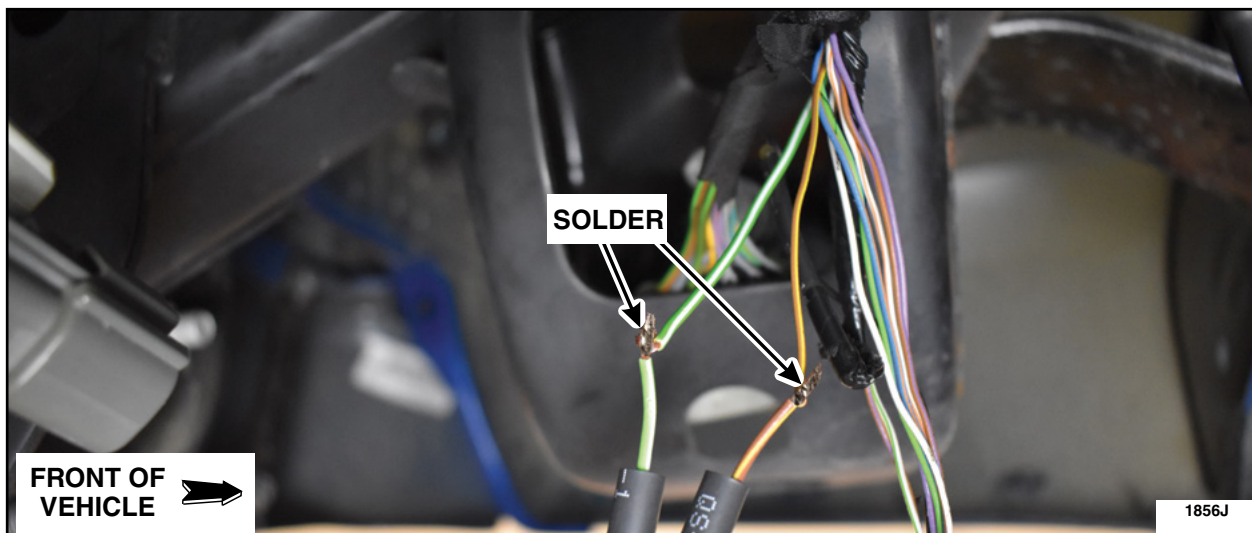

FIGURE 12
- Solder the twisted wires of the male connector. See Figure 12.